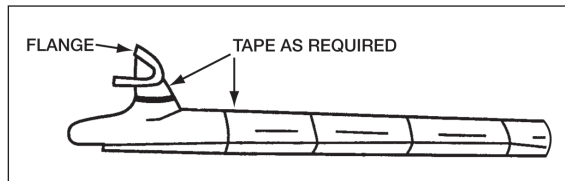

Figure 5
17. Roll up the new AMTROL® bladder and tape as necessary intervals to keep it rolled (Figure 5).